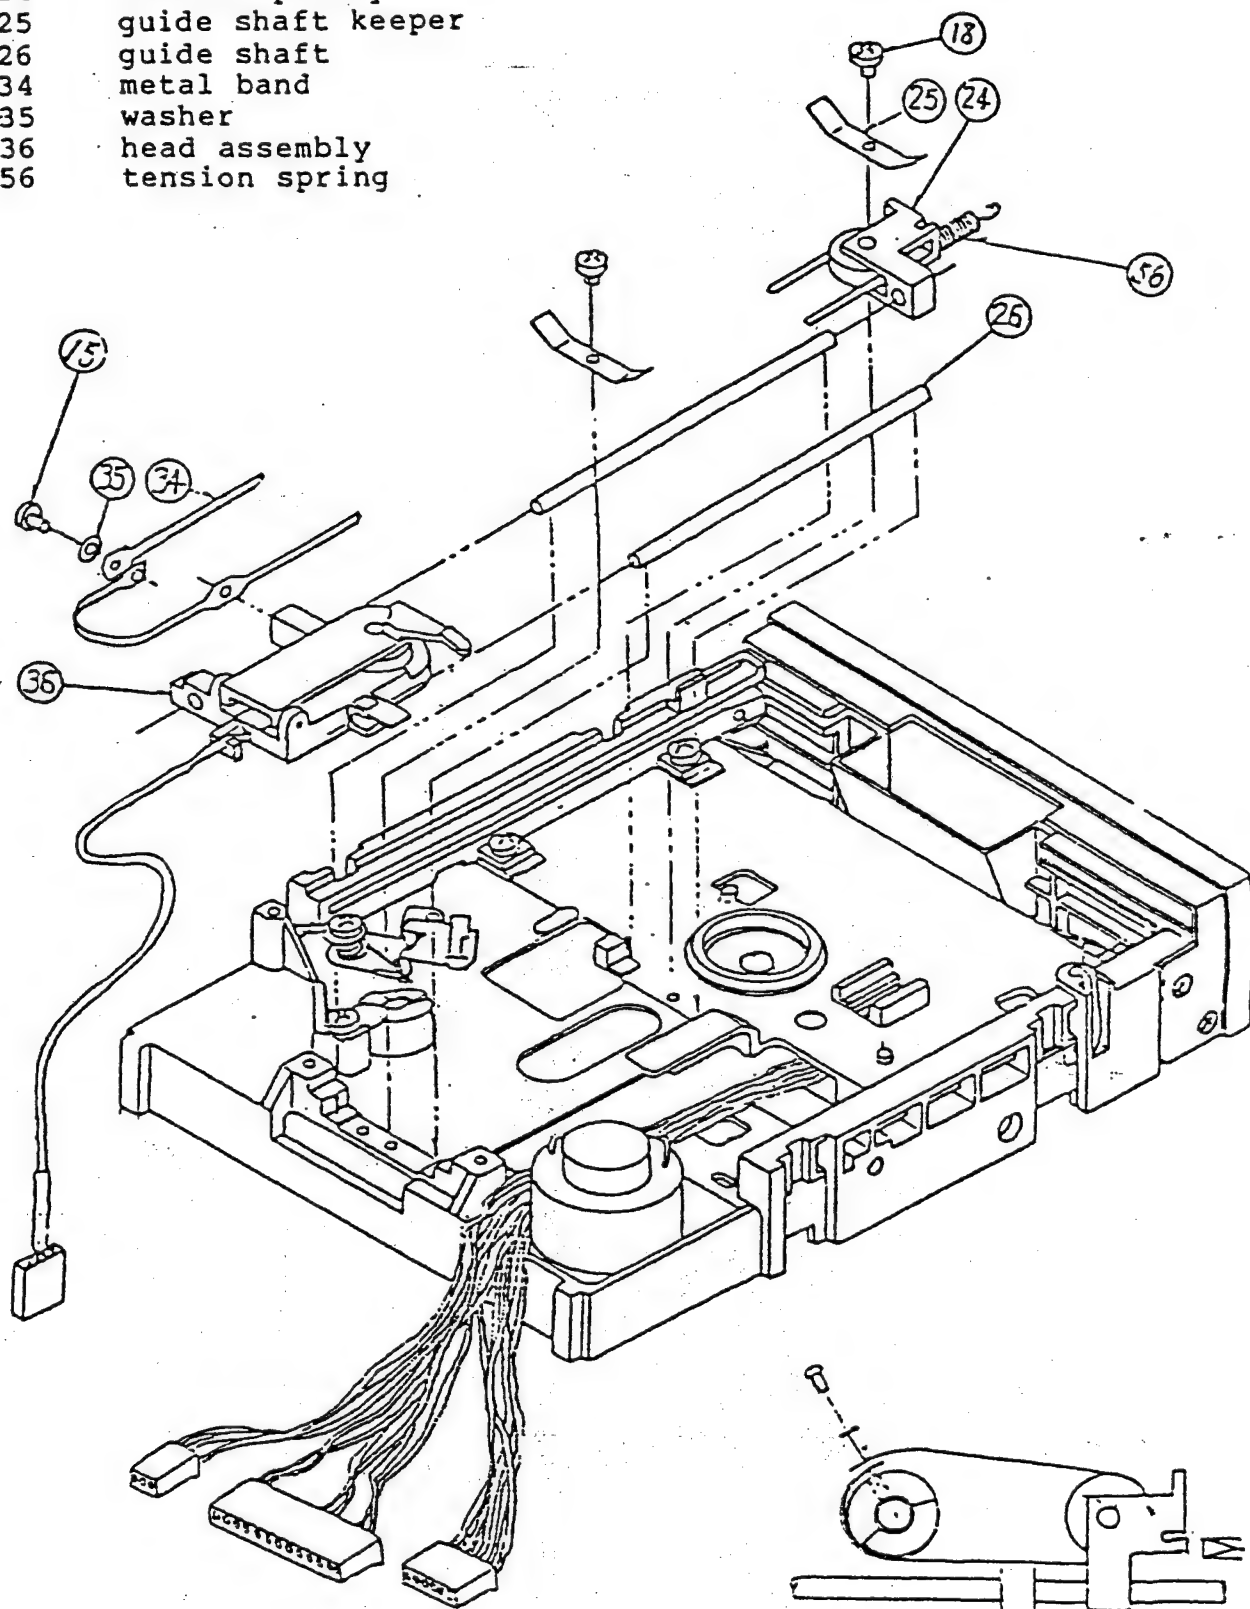

FIG 8
- 2.3.21 Insert the guide shafts into the head assembly. Install the tension pulley as shown in figure 8
- 2.3.27 Secure the cable clamp with a screw as shown in FIG 8.